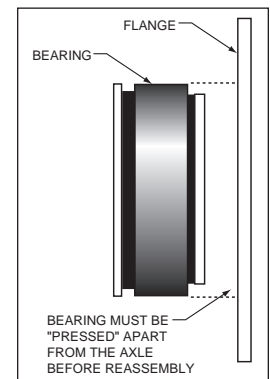

Figure 5
Completely disassemble the stock brake system down to the bare axle. The stock bearing must be "pressed" off from the axle. Discard the original bearing and flange. Degrease and remove any dings or burrs on the axle which may interfere with the brake assembly. A new "Green" non-adjustable bearing and seal kit (purchased separately) must be pressed onto the axle. The flange must be "pressed" off of the bearing, Figure 5. The Wilwood caliper mounting bracket (1) has been designed to replace the original flange and fit over the new bearing. Insert the axle into the rear end housing and secure.